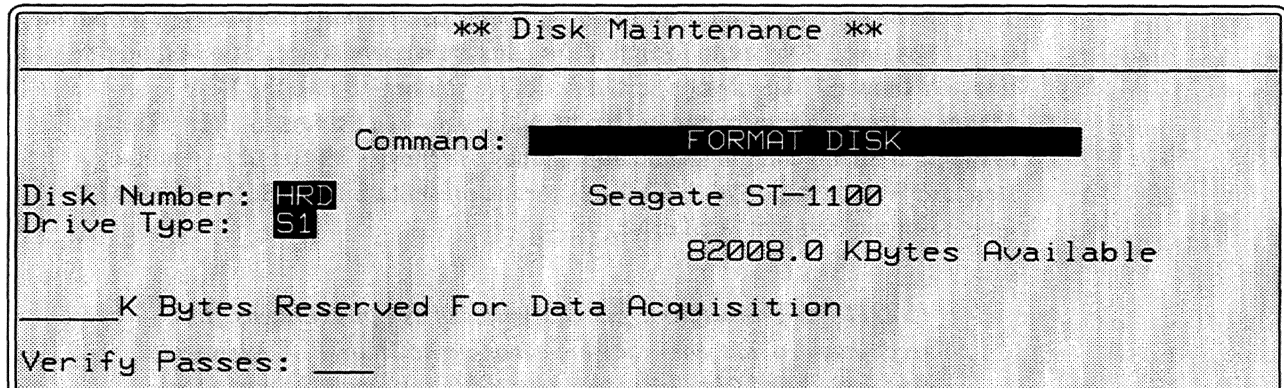

Figure 14-4 Indicate the size of the hard disk installed in your unit.
3. *Drive type.* When you select **Disk Number: HRD**, the **Drive Type** field appears on ST506 units; SCSI units automatically read the information from the drive itself. See Figure 14-4. Select from 20M L1, 44M R1, 41M K1, 43M T1, 82M S1, or 41M S2 to indicate the size of your hard disk; the INTERVIEW 8000 Series defaults to 82M S1. If you try to format a disk to a size larger than its capacity, you will get an error message. If you inadvertently format a disk to a size smaller than its capacity, you may reformat it to the correct size.